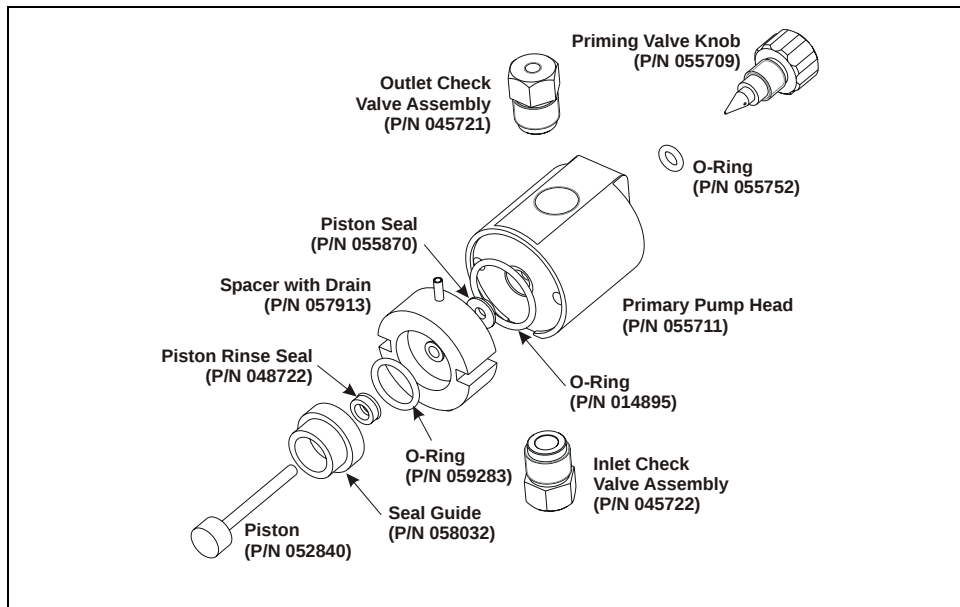

Figure 5-12. Primary Pump Head
5. Place the head (front end down) on a clean work surface and lift off the spacer to expose the piston seal (see Figure 5-12 or Figure 5-13).